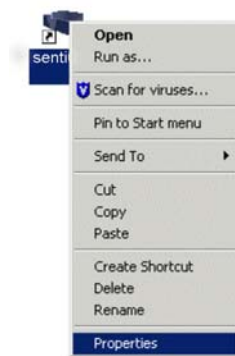

Figure G-1: Opening the Properties dialog of the application shortcut
1. Locate the shortcut to the application on your desktop and right click on it as shown in Figure G-1, select properties and release the mouse button. The Properties dialog opens.